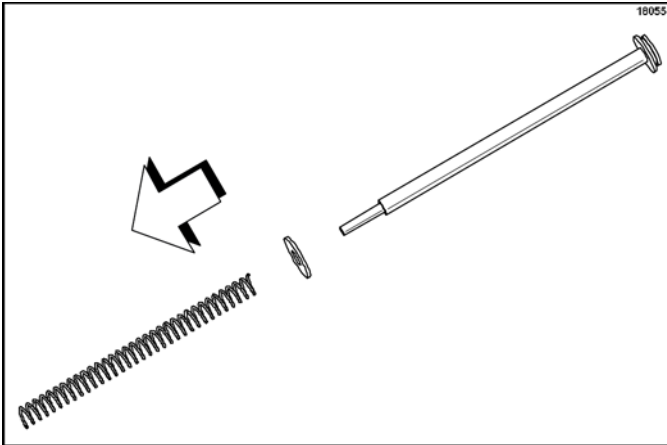

Figure 6-95
6. Remove the spring and washer from the plunger assembly. (See Figure 6-95.)